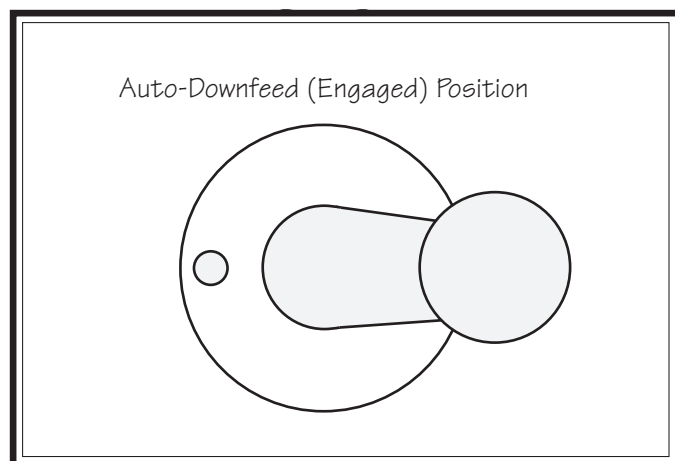

Figure 40. Downfeed selector in the auto-downfeed (engaged) position.
2. To set the mill for auto-downfeed, pull the downfeed selector knob out, then rotate the selector clockwise and seat the pin in the rear auto-downfeed (engaged) position, as illustrated in **Figure 40**.